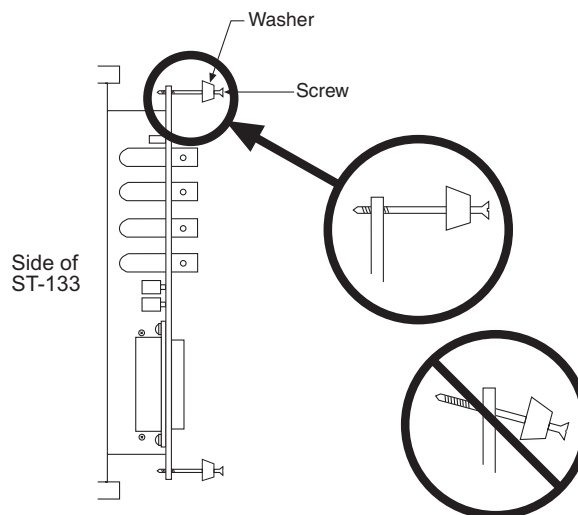

Figure 75. Module Installation
3. Rotate the two locking screws counterclockwise until the threads on the screws engage those of the module panel. *See Figure 75.* By doing this, the screws will be perfectly perpendicular to the module panel and will align perfectly when the module is inserted.